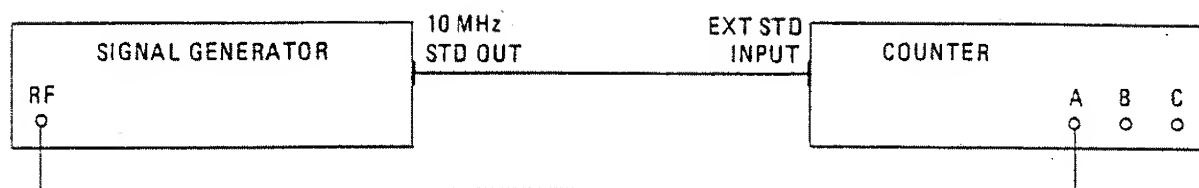

Fig. 6.4 Connections for Input A System Adjustment
- (1) Turn on the counter. Select 50 ohms for Input A and function FREQ A.
- (2) Press the RESOLUTION key five times until 000 is displayed.
- (3) Connect the test equipment as shown in Fig 6.4.